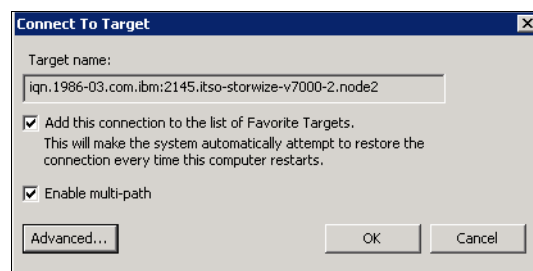

Figure 5-40 Connect to a target
7. Highlight the inactive port and click **Connect**. The Connect to Target window opens (Figure 5-40).